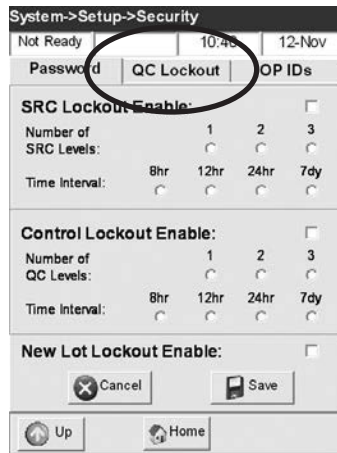

Fig. 3-33 Select QC Lockout
- Select **<QC Lockout>** in the **<Security>** menu (Fig. 3-33).